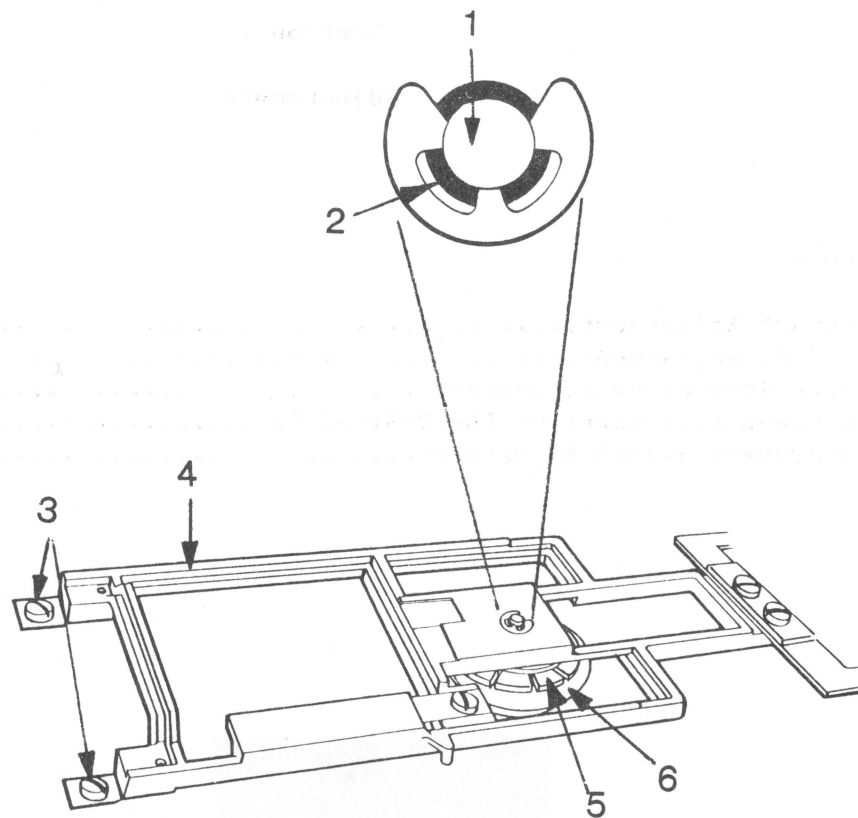

FIGURE 1
2. Looking straight down on the collet shaft (Figure 1, #1), close the door. Check to see that the shaft is centered.
4. If the shaft is not centered (i.e., touches the side of the hole in the casting (Figure 1, #2)), go on to step 5.